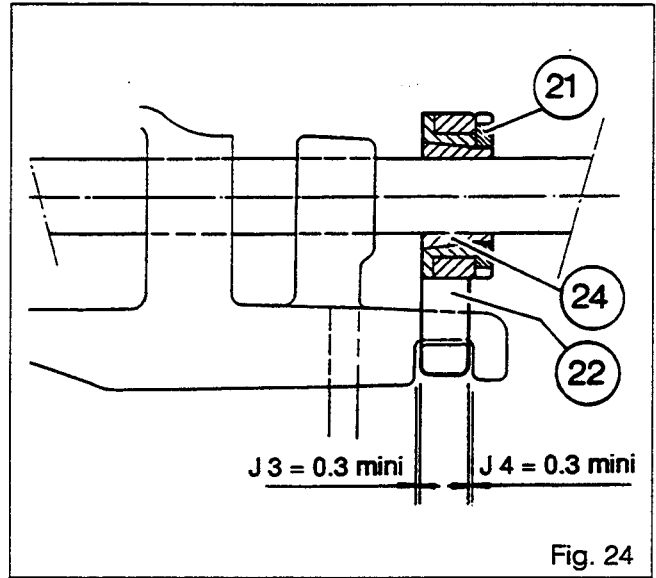

Fig. 24
- 98. Apply plays **J3** and **J4 (min. = 0.3 mm)** equally so that the mechanical latch (**22**) operates unhampered (Figures 24 and 25).